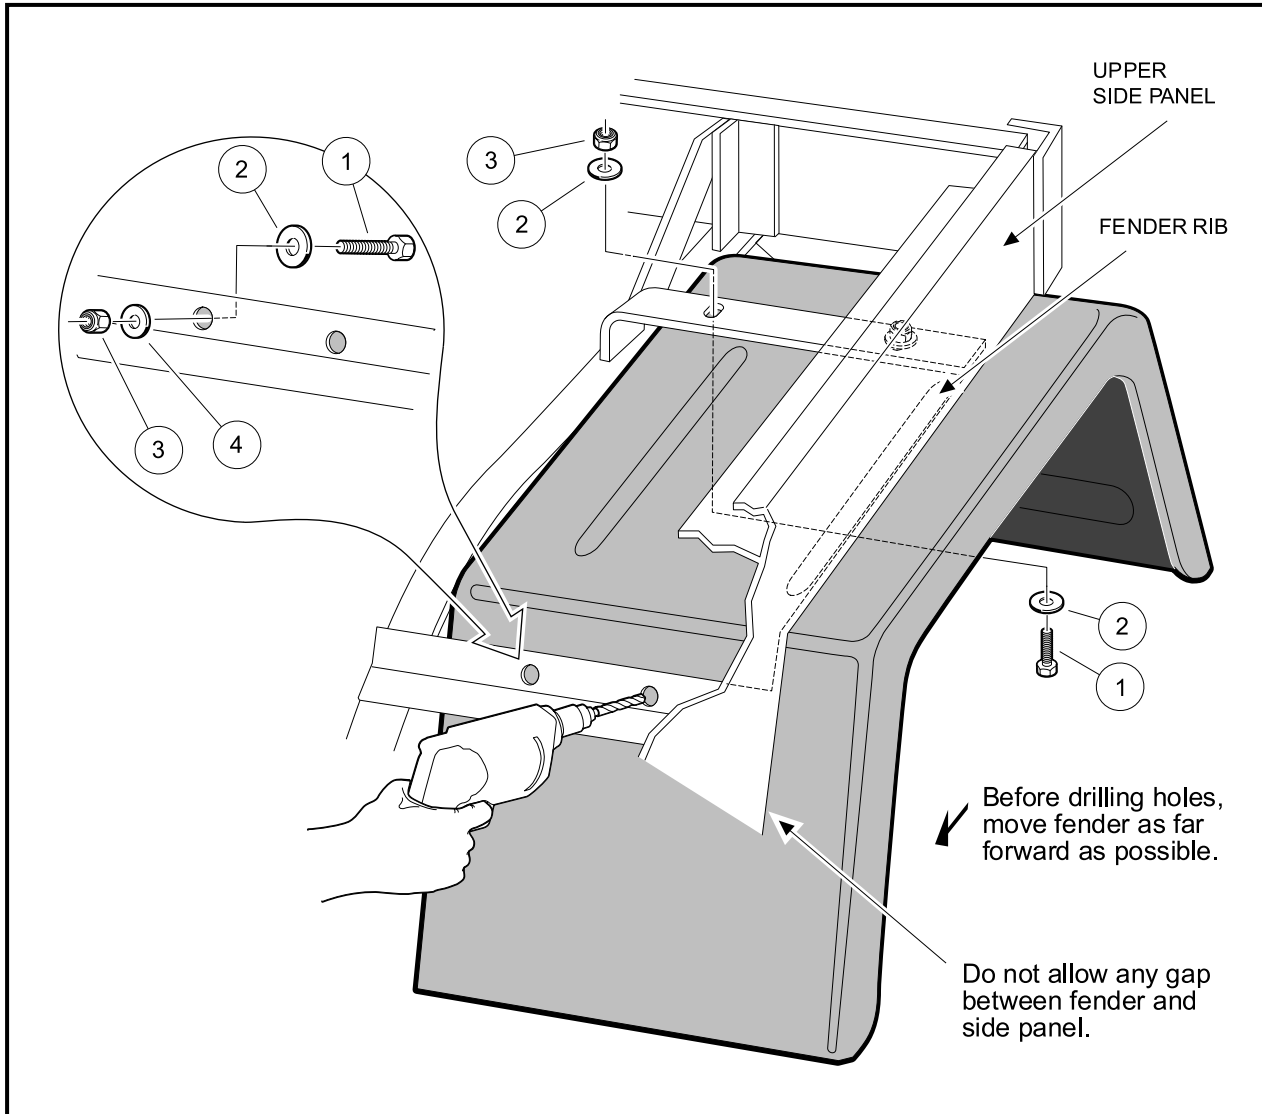

Figure 24 Drill Additional Mounting Holes
- 4.1. Make sure outer fender rib is flush with the inside surface of the upper side panel (**Figure 24, Page 36**).
- 4.2. Move fender as far forward as possible. There should be no gap between the fender and side panel (**Figure 24, Page 36**).
5. Drill three 5/16 inch holes through the fender using existing frame holes as guides (**Figure 24, Page 36**).
6. Install bolt (1), large flat washers (2), and locknut (3) at top hole as shown (**Figure 24, Page 36**). Tighten mounting hardware at both upper holes to 35 in-lb (4.0 N·m).
7. Install bolt (1), large flat washer (2), small flat washer (4) and locknut (3) in both forward-facing holes in frame and fender (**Figure 24, Page 36**). Tighten to 35 in-lb (4.0 N·m).